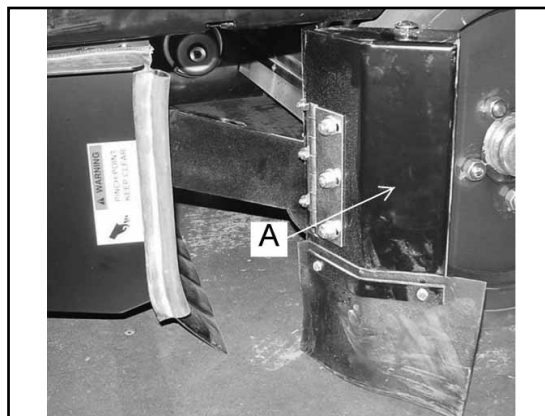

FIGURE 81
The main broom access door (A) is located in front of the left side tire of the machine as shown in figure 81. The door provides access to the main broom for service or inspection. The hopper must be raised to access.